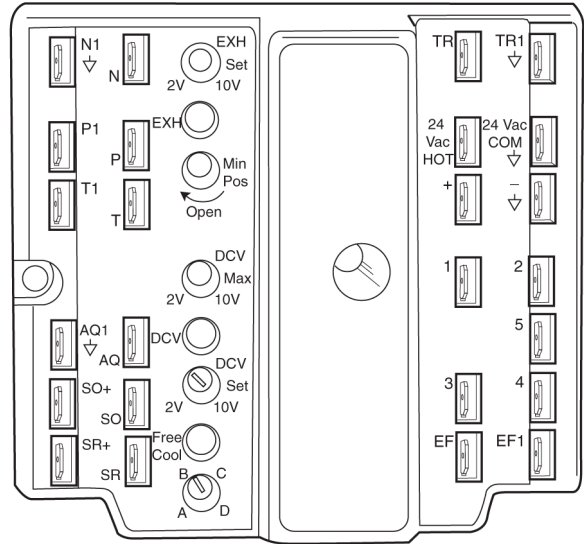

**Fig. 15 — Horizontal Return Opening Blank-Off (Not on All Units)**
20. On some units the return damper does not reach to the top of the horizontal return opening in the unit. In this case a horizontal blank-off must be installed. Install the horizontal blank-off at the top of the horizontal return opening. (See Fig. 15.) Screw in place thru pre-punched holes.